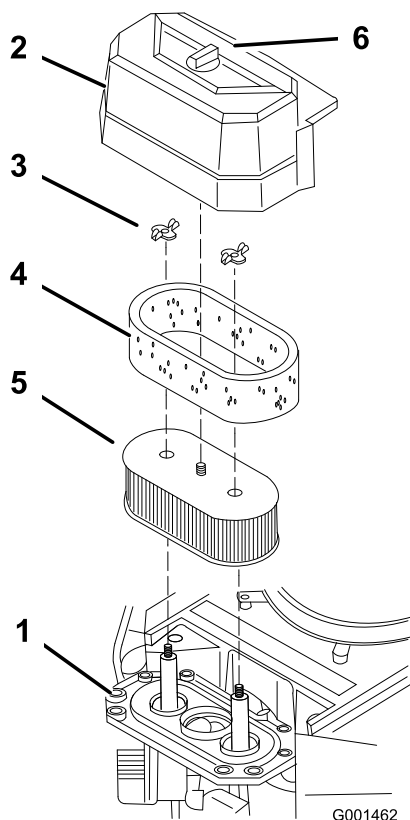

Figure 30
3. Clean around the air cleaner to prevent dirt from getting into the engine and causing damage (Figure 30).
4. Unscrew the cover knob and remove the air cleaner cover (Figure 30).
5. Remove the 2 wing nuts and remove the air cleaner assembly (Figure 30).
6. Carefully pull the foam element off the paper element (Figure 30).
1. Do not clean the paper filter (Figure 30).
1. Carefully slide the foam element onto the paper air cleaner element (Figure 30).
2. Place the air cleaner assembly onto the air cleaner base and secure it with the 2 wing nuts (Figure 30).
3. Place the air cleaner cover into position and tighten the cover knob (Figure 30).